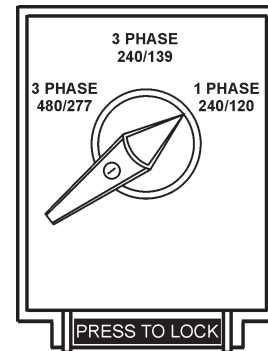

Figure 37. Voltage Selector Switch
1. Place the **voltage selector switch** in the desired voltage position (Figure 37)..